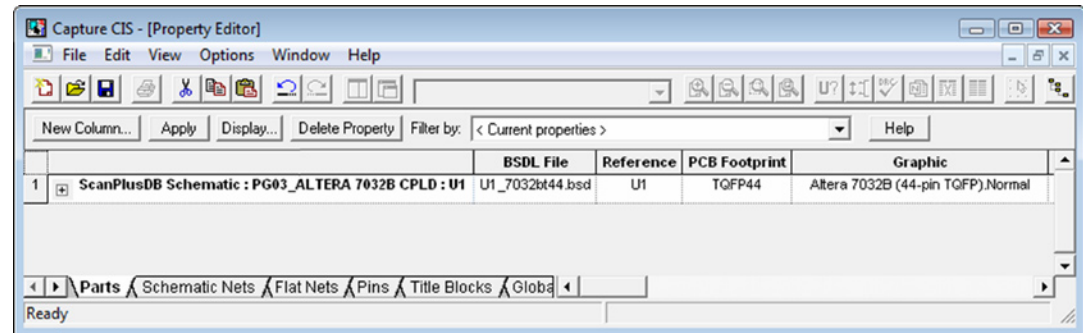

Figure 3: Property Editor
5. Also add the package designation as it appears in the BSDL file to the “PCB Footprint” column, as shown in Figure 3